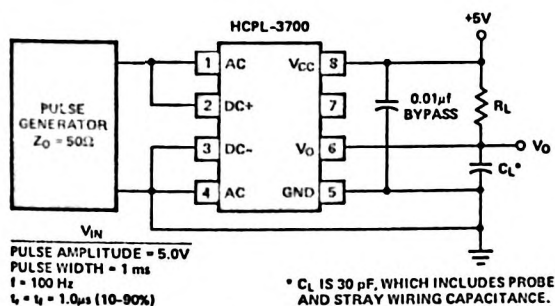

Figure 9. Switching Test Circuit.
10. The t_{PHL} propagation delay is measured from the 2.5V level of the leading edge of a 5.0V input pulse (1 μs rise time) to the 1.5V level on the leading edge of the output pulse (see Figure 9).
11. The t_{PLH} propagation delay is measured from the 2.5V level of the trailing edge of a 5.0V input pulse (1 μs fall time) to the 1.5V level on the trailing edge of the output pulse (see Figure 9).